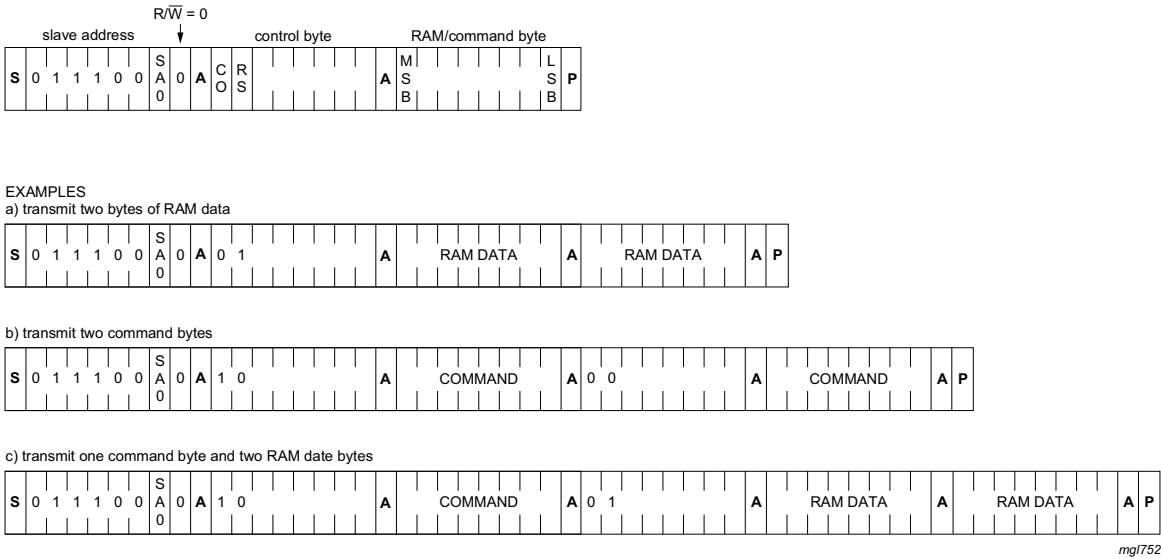

Fig 21. I²C-bus protocol
The I²C-bus protocol is shown in Figure 21. The sequence is initiated with a START condition (S) from the I²C-bus master which is followed by one of two possible PCA85232 slave addresses available. All PCA85232 with the corresponding SA0 level acknowledge in parallel to the slave address, but all PCA85232 with the alternative SA0 level ignore the whole I²C-bus transfer.